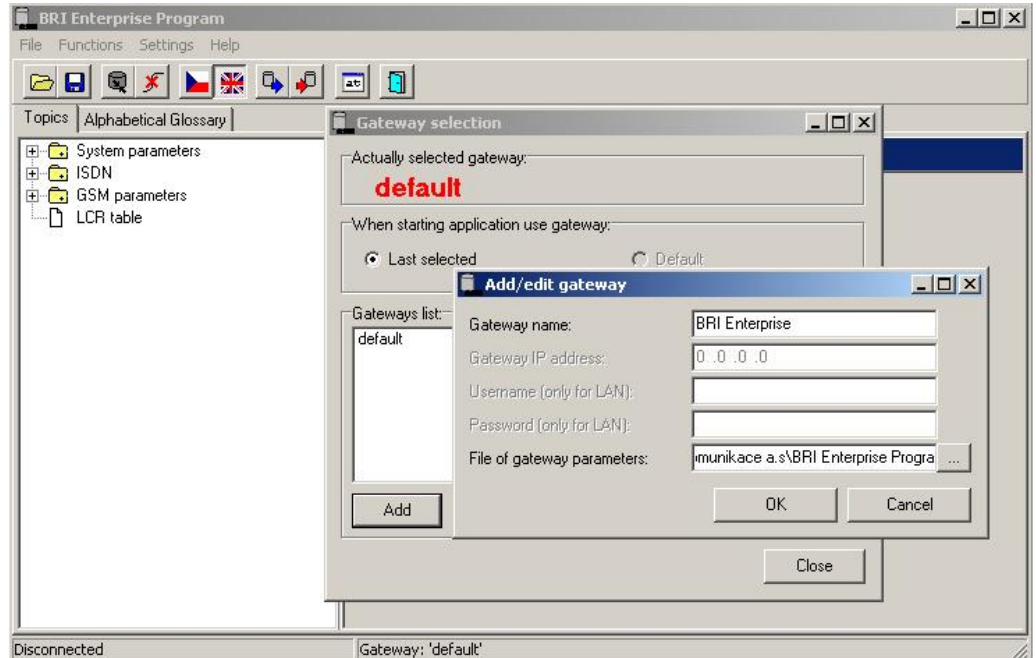

Fig. 41 – Gateway Editing Window
- *Add* - click on *Add* to open a window with some essential data necessary for the gateway identification (see Fig. 41). Enter the gateway name chosen by you into the *Gateway name* item. To control the gateway using the LAN, it is recommended to complete the *Gateway address*, *Username* and *Password*. You need not complete these items if you control the GSM gateway by the USB. Eventually, complete the *File of gateway parameters* including the directory path and filename.